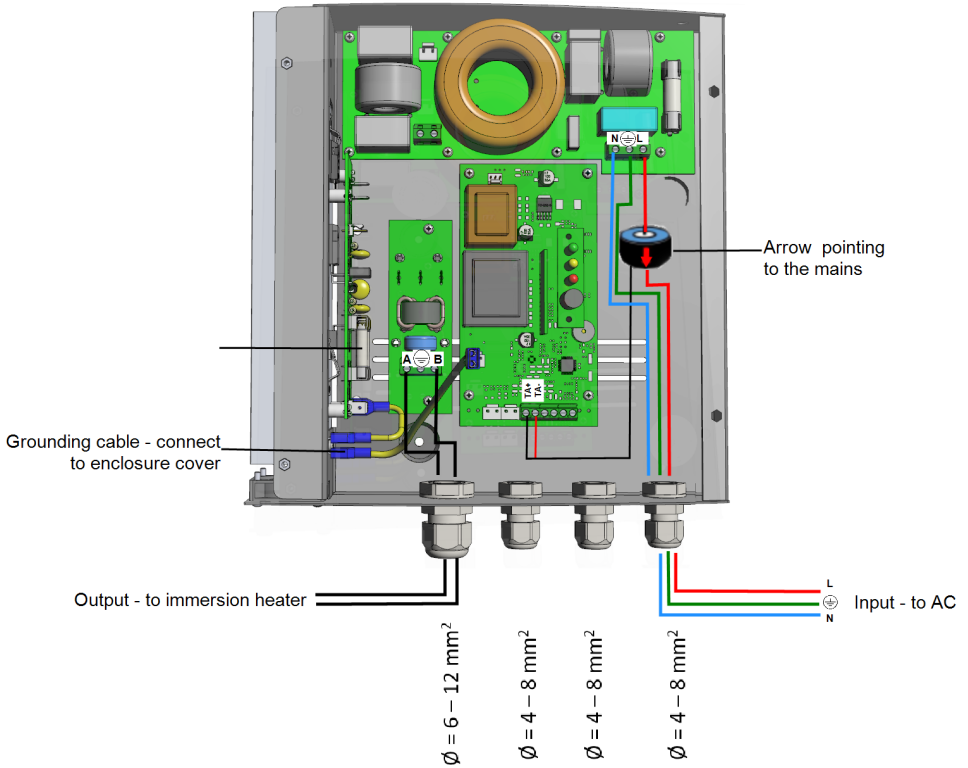

Figure 4: Smart Energy Hot Water connections
- Refer to *Figure 4*.
Do not connect the device *output* (labeled A & B) to the grid, as this will damage the product. Connect the AC grid to the designated *input* only (see *Figure 4*).